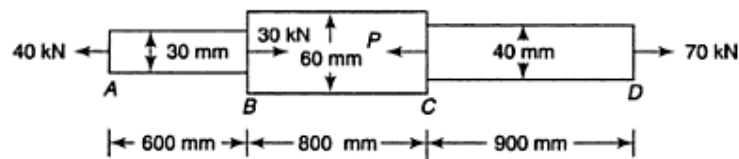

Fig. 3
- b) A circular steel bar having three segments is subjected to various forces at different cross-sections as shown in Fig 3 Determine the necessary force to be applied at section C for the equilibrium of the bar. Also find the total elongation of the bar. $E = 202 \text{ GPa}$. 8